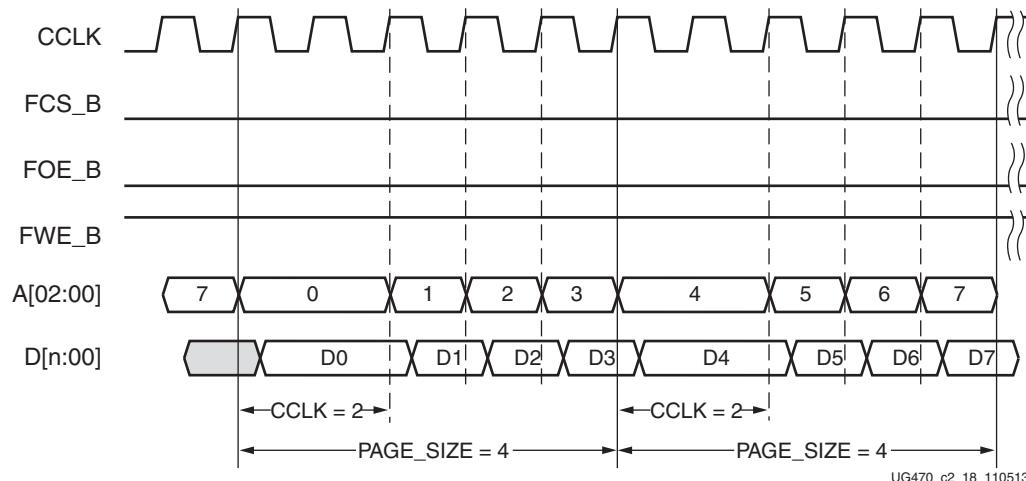

Figure 2-19: BPI Waveforms (Page Size = 4 and First Access CCLK = 2)
The sequence of page-mode operation is controlled by the 7 series FPGA bitstream. After an FPGA reset, the default page size is 1, the first access CCLK is 1, and the master CCLK is running at slowest default frequency. The COR0 register contains master CCLK frequency control bits (see Configuration Options Register 0 \(01001\) , page 115). The COR1 register contains BPI flash page mode control bits (see Configuration Options Register 1 \(01110\) , page 118). After the COR1 register is programmed, the BPI address timing switches at the page boundary as shown in Figure 2-19. When the SWITCH command is received, the master CCLK switches to a user-desired frequency, using it to load the rest of the configuration. See the BitGen section of UG628, Command Line Tools User Guide for details on BitGen options.
Notes related to Figure 2-19:
1. Figure 2-19 shows BPI mode, a page size of 4, and a first access CCLK of 2.